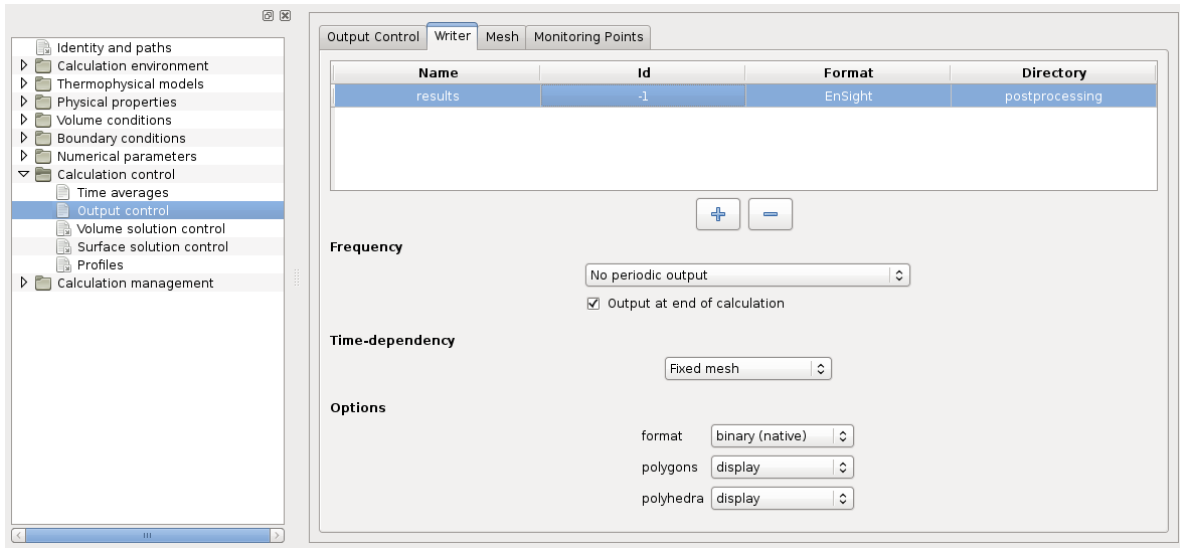
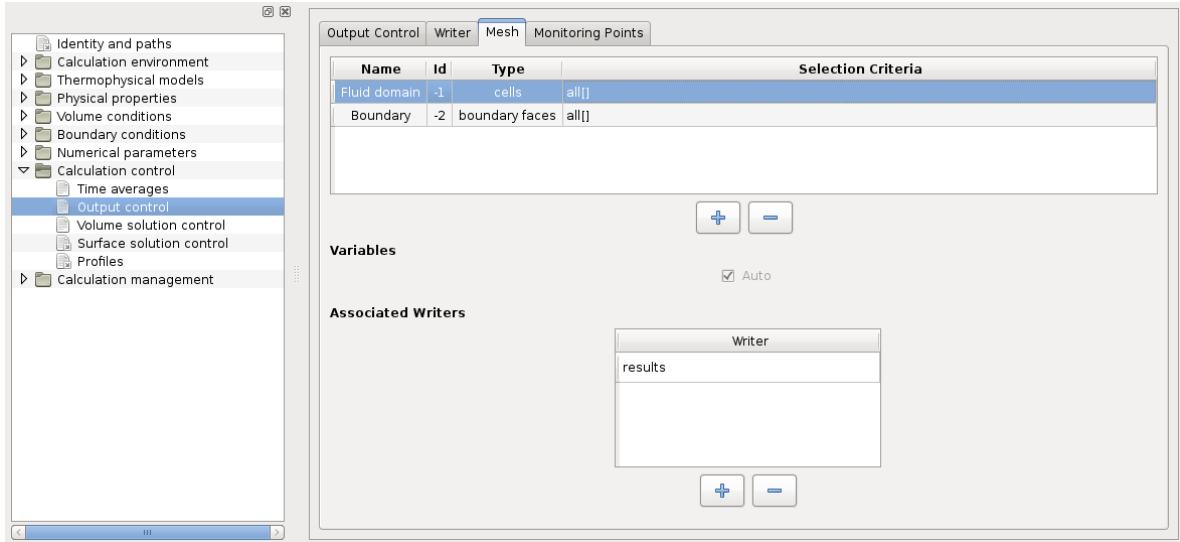
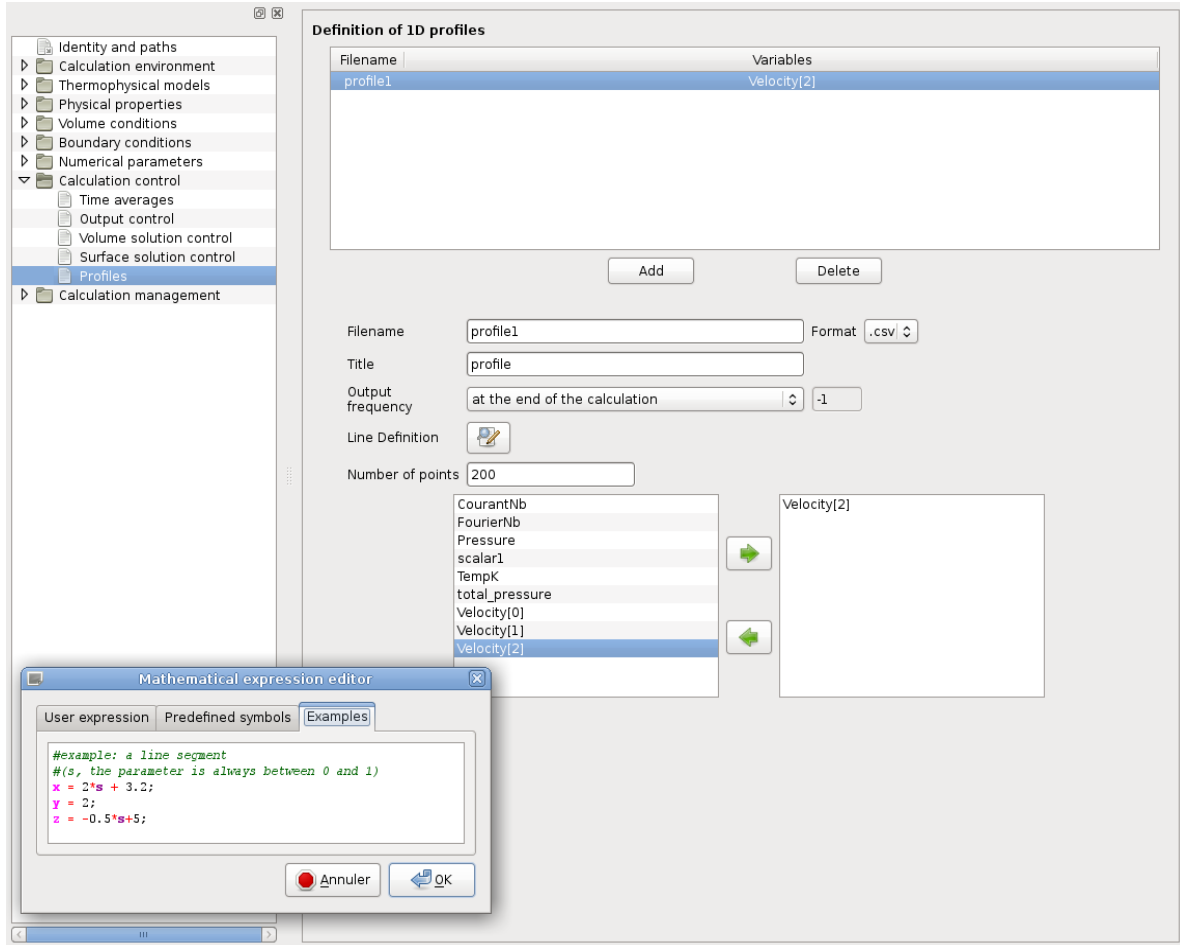

Figure 25: Management of postprocessing writers
Figure 26: Management of postprocessing meshes
Figure 27: Management of 1D profiles of the solution
- Calculation control: parameters related to the time averages, the locations of the probes where some variables will be monitored over time (if the GUI is not used, this information is specified in § 6.3), the definition of the frequency of the outputs in the calculation listing, the post-processing output writer frequency and format options, and the post-processing output meshes and variables selection, see Figure 23, Figure 24, Figure 25, and Figure 26. The item "Profiles" allows to save, with a frequency defined by the user, 1D profiles on a parametric curve define by its equation, see Figure 27.